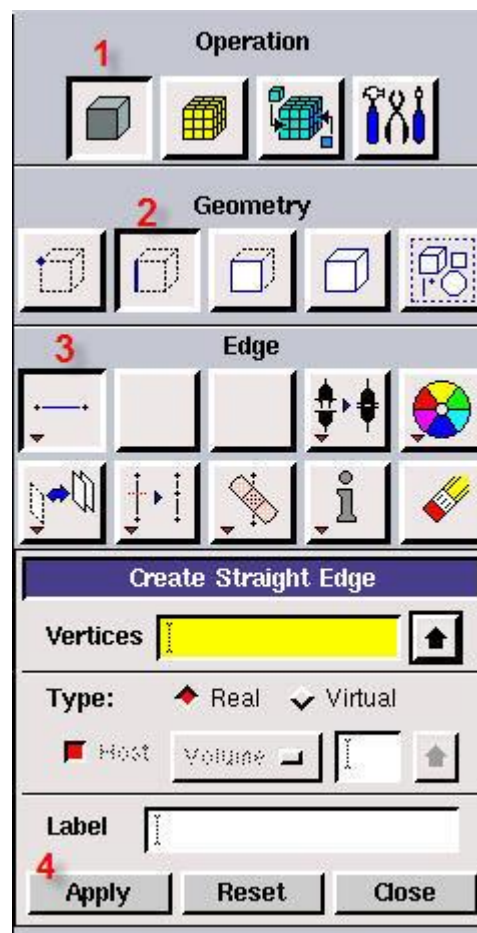
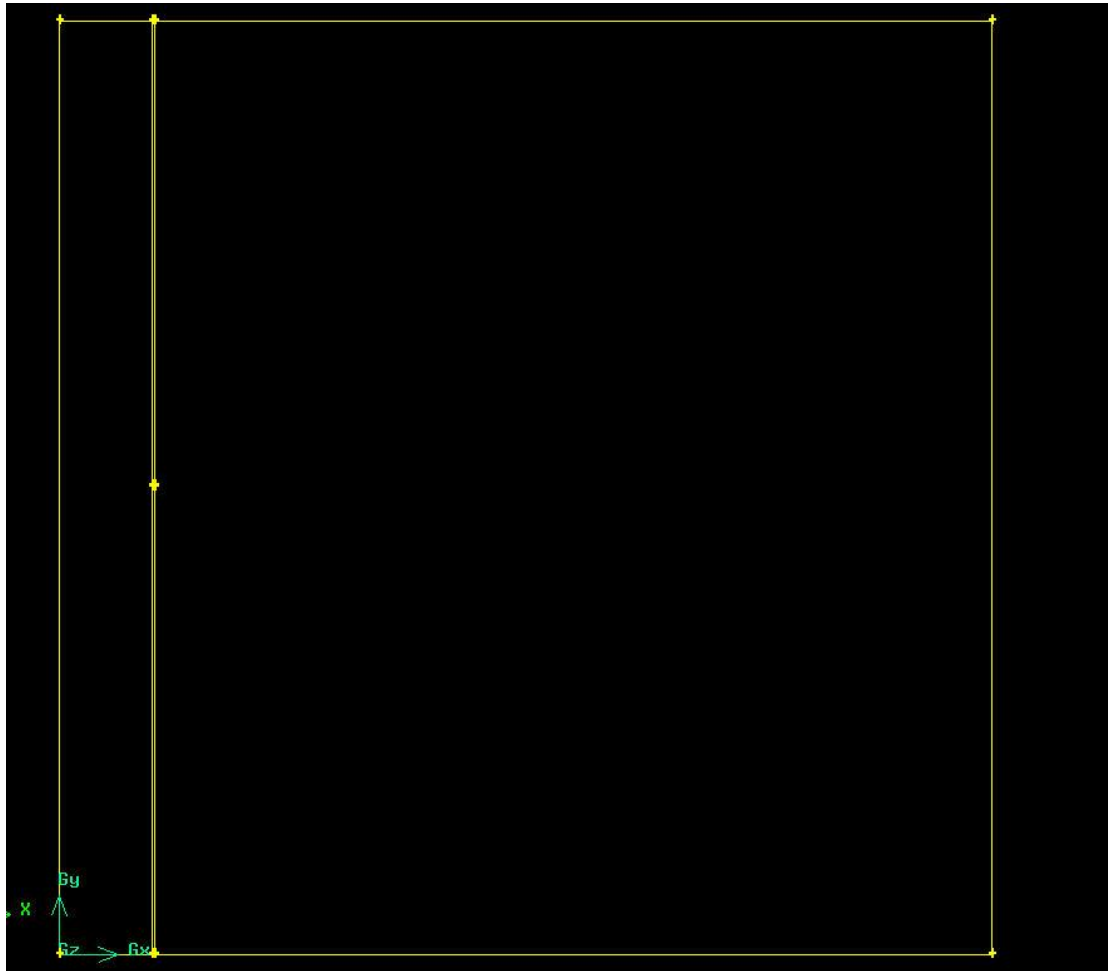

Figure 2.3 Steps to connect key points
Figure 2.4 Simulation domain skeleton
Follow the steps illustrated in Figure 2.3 to connect the key points. In the **Operation Toolpad**, select **Geometry Command Button (1)** >> **Edge Command Button (2)** >> **Create Edge Command Button (3)**. Then press hot keys “**Shift+ mouse left click**” to choose any two key points and press **Apply (4)** to generate domain skeleton. A completed domain skeletons is illustrated in Figure 2.4.